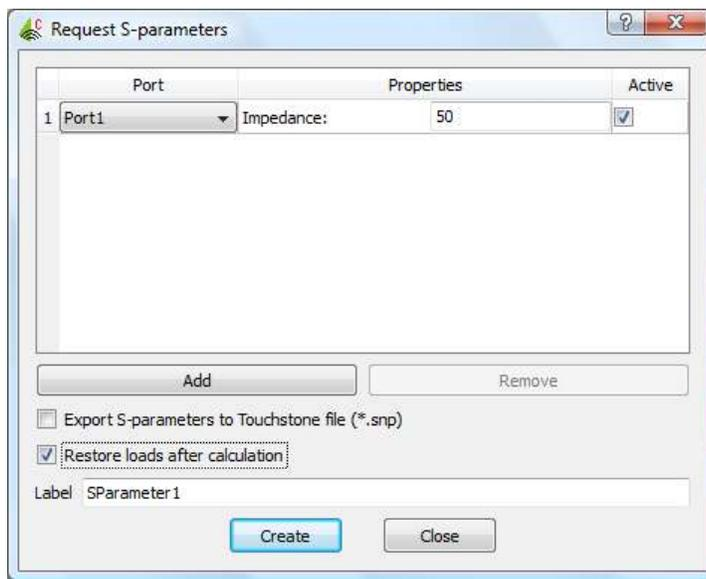

Figure 18.
21. Now, you can request the type of simulation/analysis you want to conduct. For this particular example, we are interested in the $|S_{11}|$ measurement. Thus right click “Calculation” → “Request S-parameters”. You will get Figure 18. Click “Restore loads after calculation” then click “Create” and then “Close”.